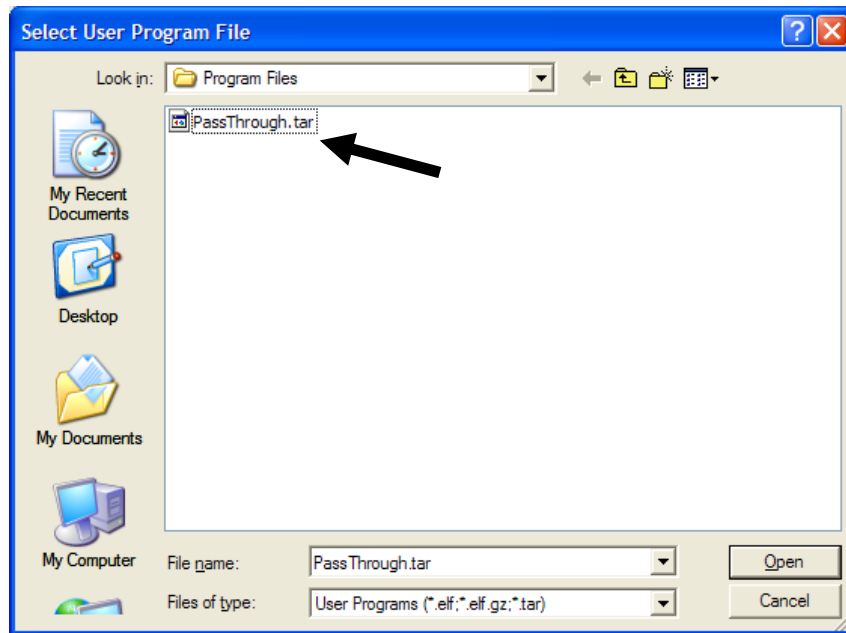

Figure 6. Select User Program File
7. Click **Open** to select the program file. The User Program Administrator screen displays. As shown in Figure 6, note that the Download User Program File frame identifies the selected program and that the **Download & Start** button is active: